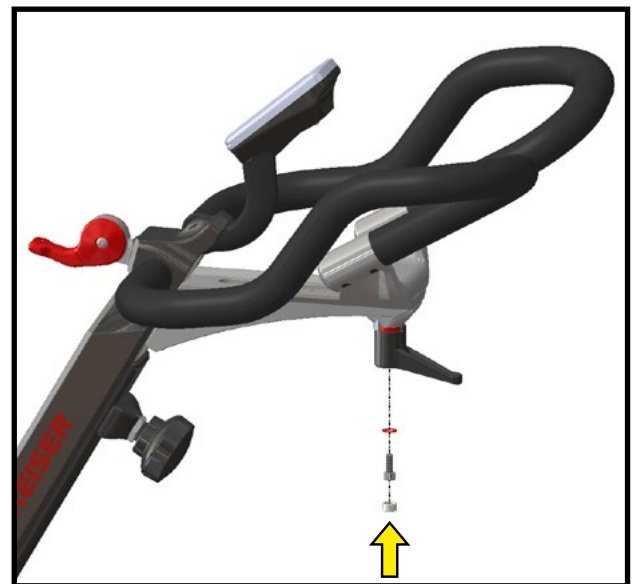

Figure 18. Install L-Handle and Secure with Screw and Washer
c) Place the L-handle onto the handle stud. The L-handle should point away from the cycle when the handlebar is tight. Install the screw and washer to secure the assembly, refer to Figure 18.